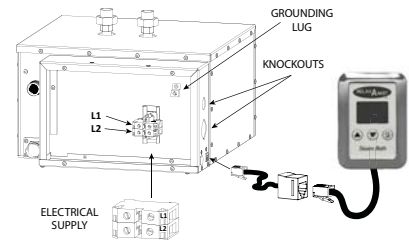

Fig. 6
- b) Connect the two copper wires from the power supply, one to each of the red and black Relax-A-Mist® wires inside the electrical box. See Fig. 6.